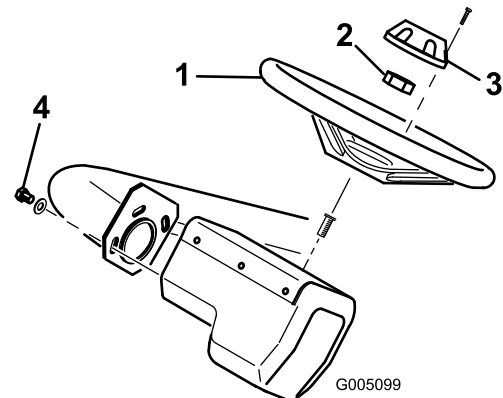

Figure 7
1. Slide the steering wheel onto the steering shaft and secure it with the jam nut (Figure 7). Torque it to 32 ft.-lb. (43 NVm).
2. Install the cap to the steering wheel with the screw (Figure 7).
**Note:** The steering wheel may be adjusted fore and aft for operator comfort by loosening the three mounting screws, pivoting the steering wheel to the desired operating position, and tightening the screws (Figure 7).